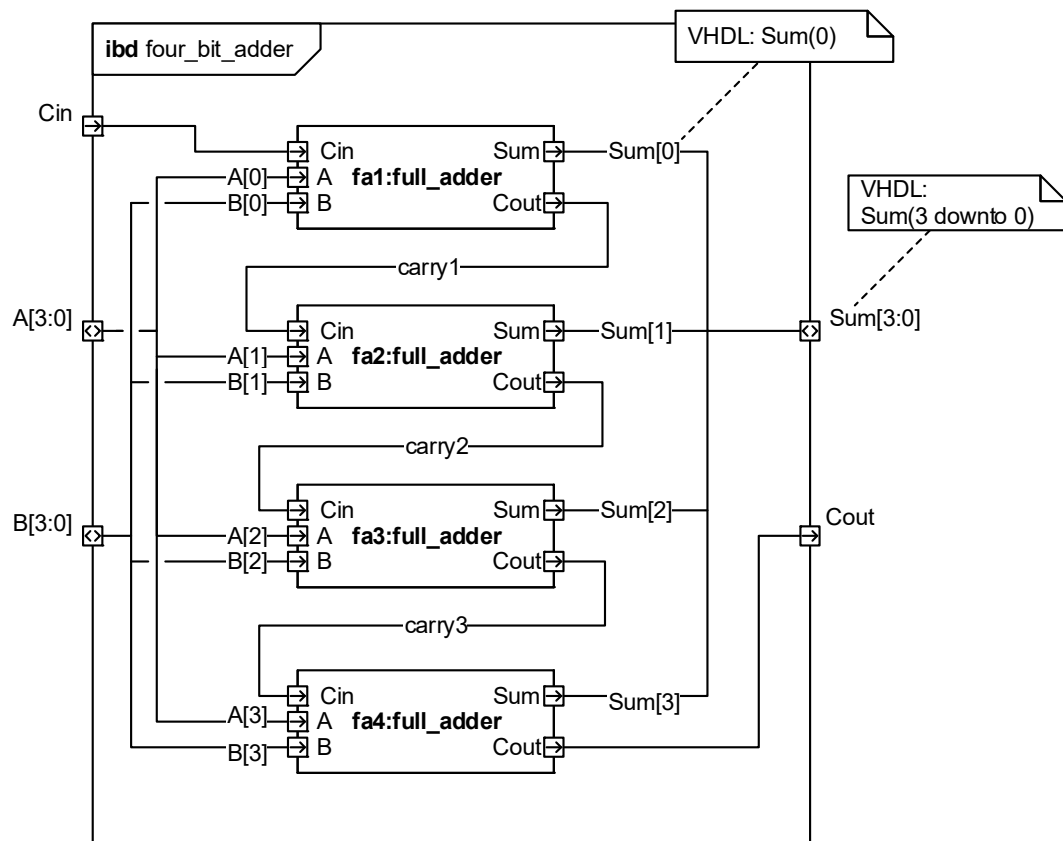

Fig. 3: Structural style 4-bit adder IBD.
- a) Similar to the full-adder exercise, create the 4-bit adder using structural style. See the internals of the 4-bit adder in figure 3. Note the three carry signals and the ports, which are now `std_logic_vectors` rather than just `std_logic` bits. Remember to set the `four_bit_adder` as your new top-level design prior to compilation.